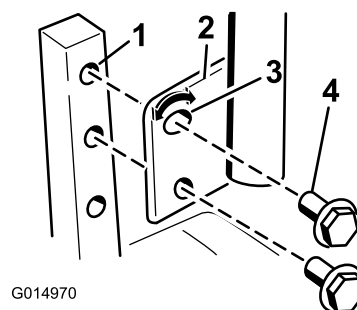

Figure 26
1. Remove the 2 bolts holding the control lever to the control arm shaft (Figure 26).
2. Move the control lever to the next set of holes. Secure the lever with the 2 bolts (Figure 26).
2. Loosen the lower bolt just enough to pivot the control lever fore or aft (Figure 26). Tighten both bolts to secure the control in the new position.